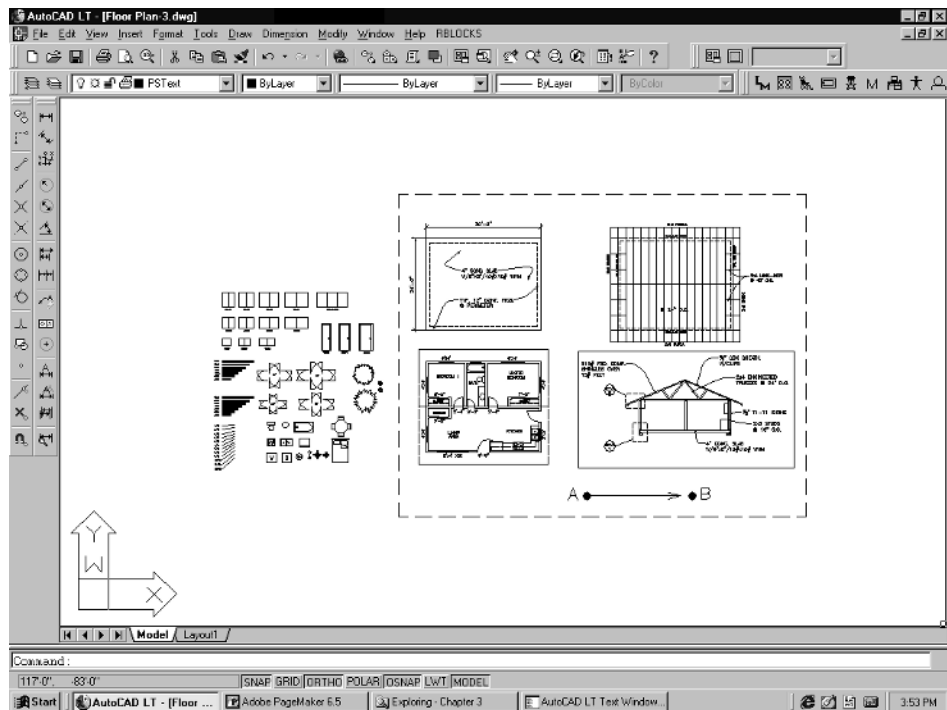

Figure 4-4
- When prompted to *Specify base point or displacement*, pick a point, such as point A in Figure 4-4. At the *Specify second point of displacement* prompt, pull the cursor right and pick point B.